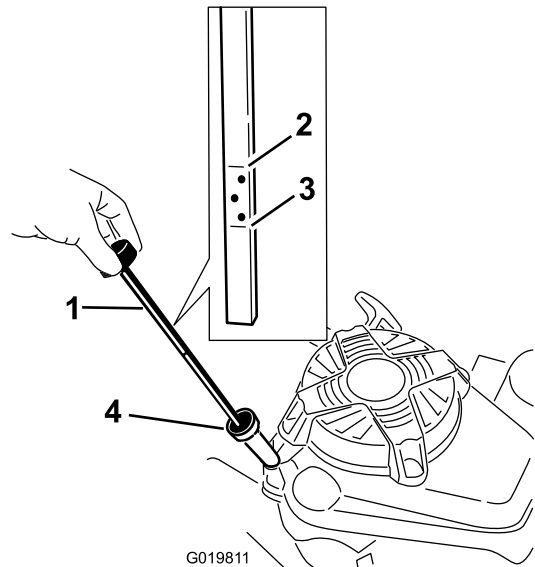

Figure 6
6. Read the oil level on the dipstick (Figure 6).
3. If the crankcase is empty, add about 3/4 of the crankcase capacity of oil into the oil-fill tube (Figure 6).